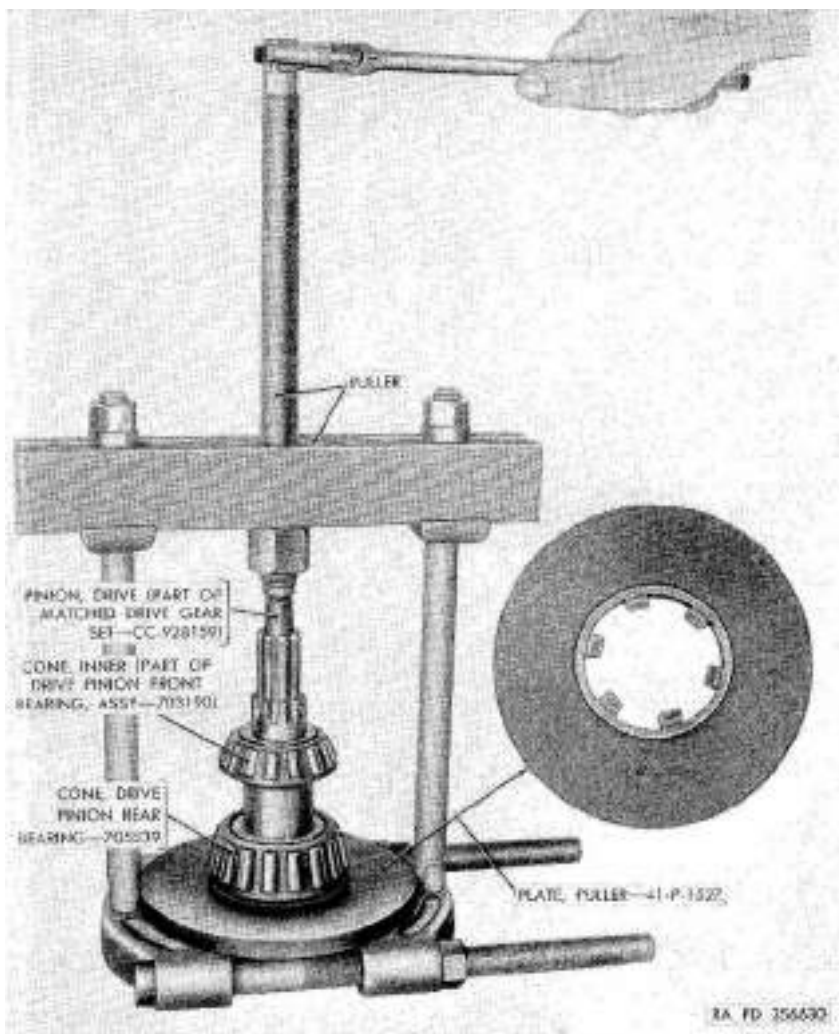

Figure 81. Removing drive pinion bearing cones with puller and puller plate 41-P-1527.
c. *Disassemble Drive Pinion.* Remove drive pinion rear bearing cone (YY) , drive pinion bearing spacer (U) , and drive pinion front bearing inner cone (R) with puller and puller plate 41—P-1527 (fig. 81).